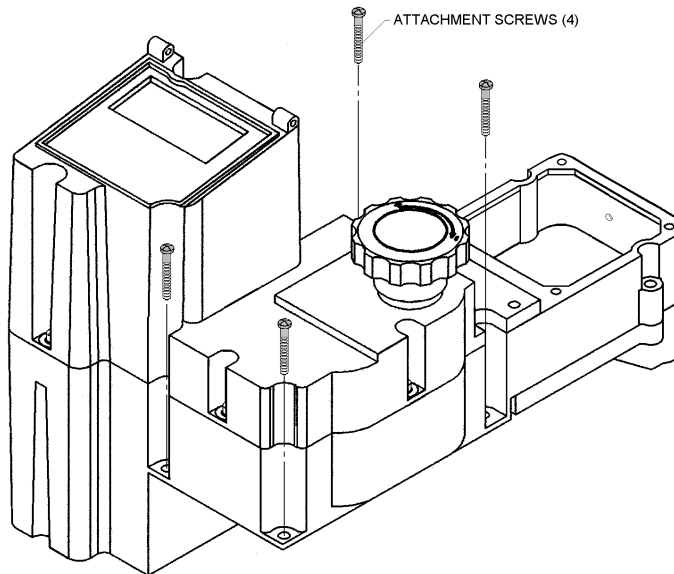

Figure 26 – MLC Removal for Replacement
8. Remove the four screws that hold the MLC to the PULSAR eccentric box. Refer to *Figure 26*.